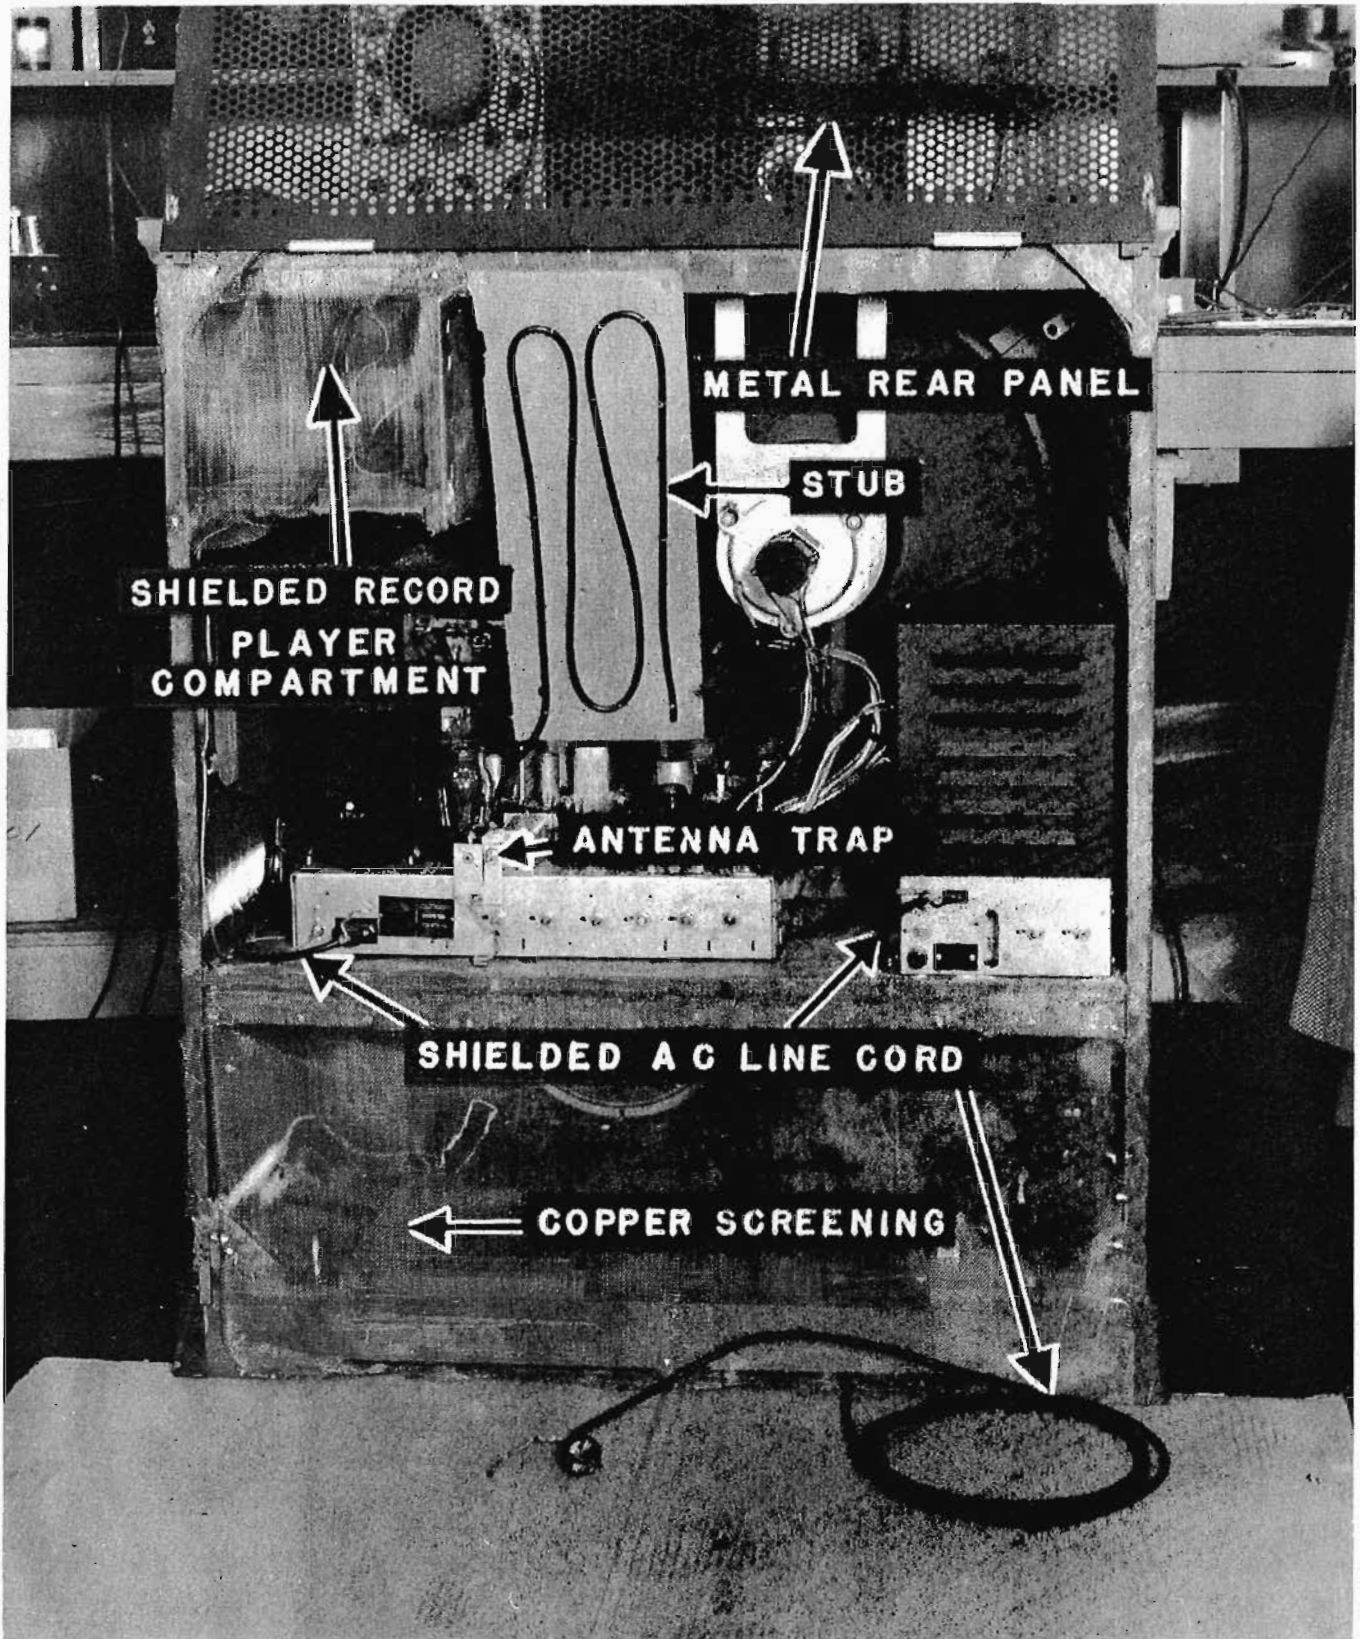

Figure 5
8. If any interference remains, install an open quarter-wave stub of RG-59/U directly across the antenna input terminals. This stub should be fixed in place by stapling to a piece of cardboard, as shown in Figure 5. The length of the stub is approximately as follows: